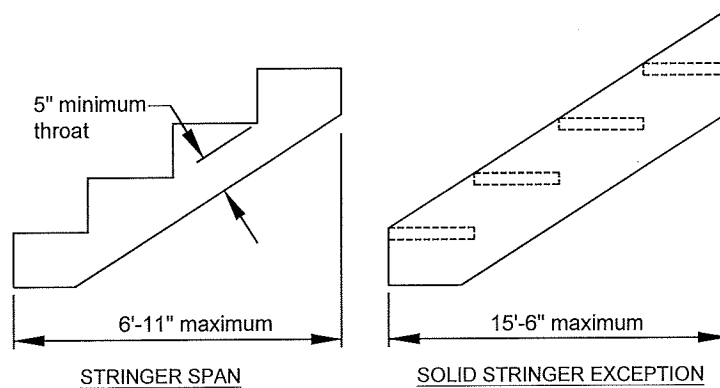

FIGURE 35: MAXIMUM STRINGER SPAN LENGTH
- The span length of a stringer shall not exceed 6 feet-11 inches, and the throat size of cut stringers shall not exceed 5 inches as shown in FIGURE 35.